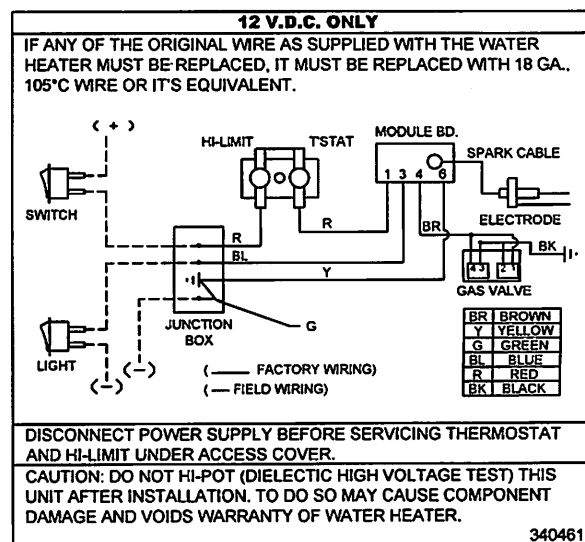

Figure 5
## MAKING ELECTRICAL CONNECTIONS 12 VOLTS D.C. (See Figure 5)
D. Make the 12 Volt D.C. electrical connections following the wiring diagram illustrated in Figure 5.